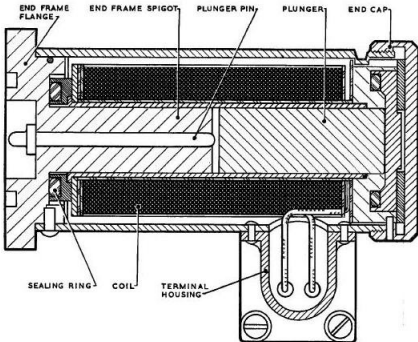

Fig. 2. Sectional view
3. The construction of the solenoid is shown in *fig. 2*. The plunger or armature is free to slide in a sleeve which surrounds both the plunger and the spigot of the end frame. The base of the end frame is flanged to allow the solenoid assembly to be bolted to a fuel valve, and its spigot is drilled to serve as a guide for the phosphor-bronze plunger pin, which latter operates the valve mechanism. The outer end of the plunger pin has a shoulder to limit its travel, while the inner end protrudes slightly beyond the face of the end frame spigot.